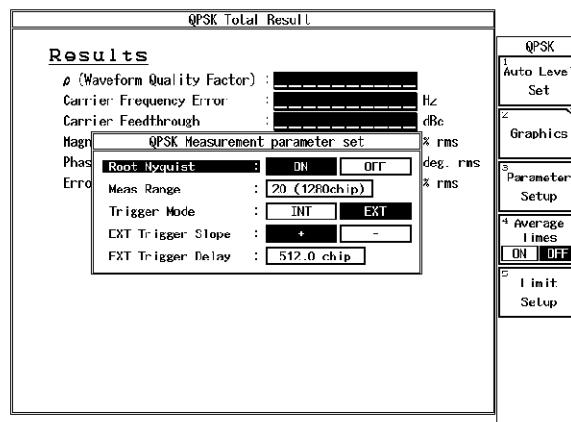

Figure 6-8 Setting of Parameter for W-CDMA Measurement Test
6. On the R3267/73, set the parameter referring Figure 6-8.